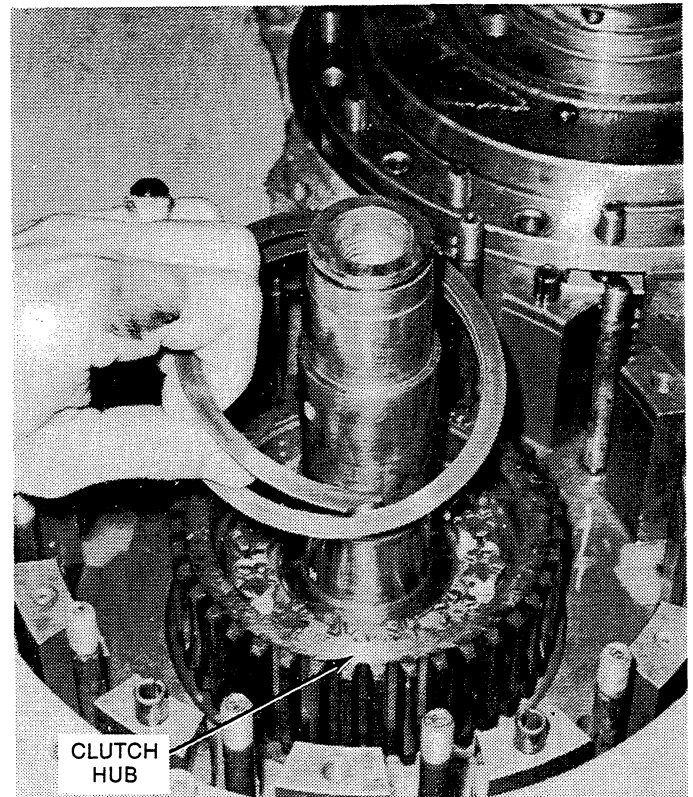

Figure 6-17. Removing or Installing Retaining Ring (Oil Dam) from Clutch Hub.
9. Remove retainer ring (oil dam) (Figure 12-2, 25) from the ID of the clutch hub (30). See Figure 6-17.